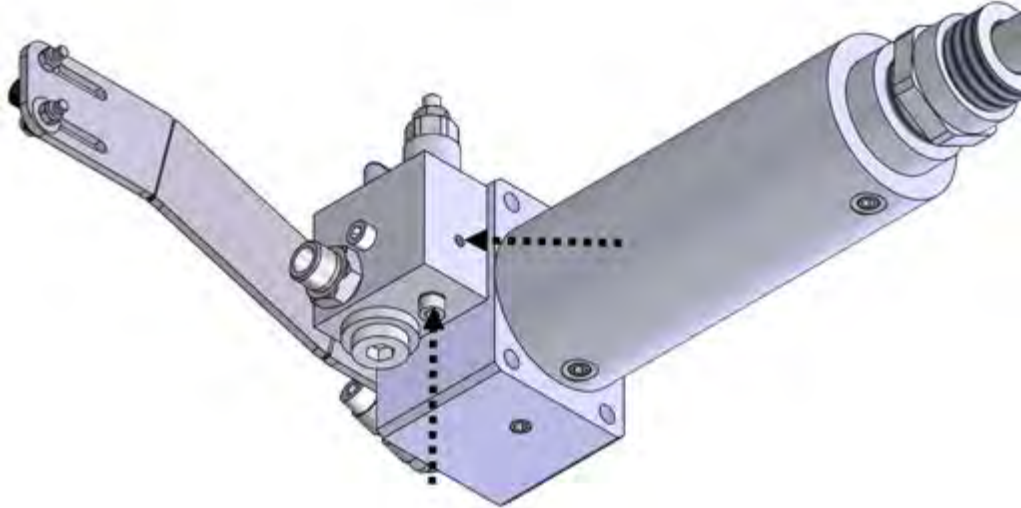

Figure 25. Attaching the oil pressure hose
5. Screw the oil pressure hose into either of the outputs shown in figure 25 and plug the unused output. Do not tighten excessively.